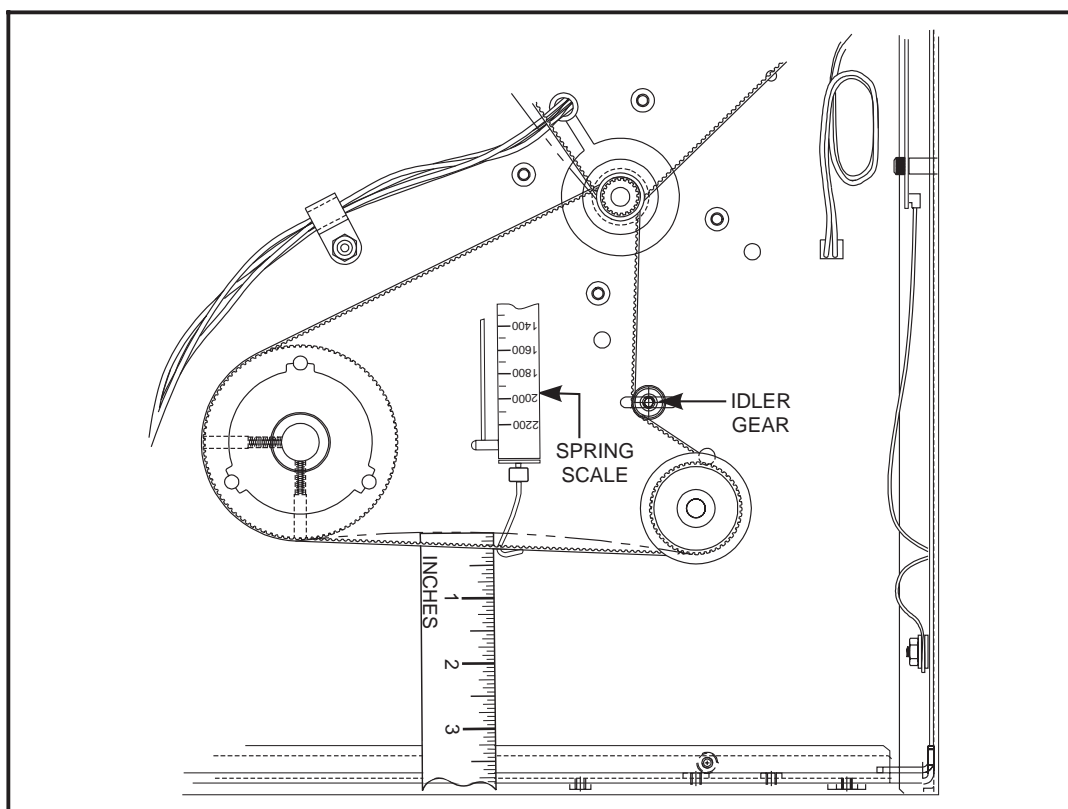

Figure 5.20 Rewind Drive Belt Replacement
2. Refer to Figure 5.20 and note the position of the Idler Gear used to adjust the tension of the Rewind Drive Belt.
6. Hook a 2200 gram spring scale to the belt as shown in Figure 5.20, and carefully slide the Idler Gear Assembly to the left to increase belt tension.